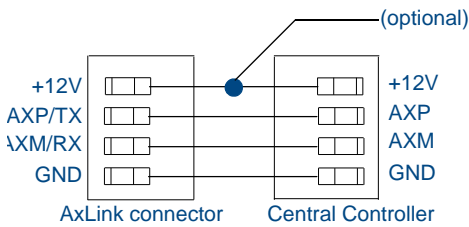

FIG. 20 AxLink wiring diagram
3. Connect the four-pin AxLink male connector into the four-pin female AxLink connector on the controller circuit card. FIG. 20 shows how to wire the AxLink connector to a Central Controller system.